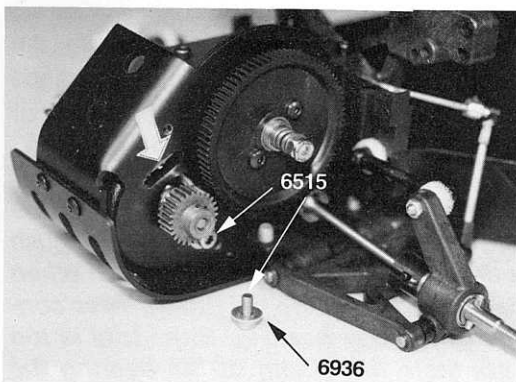

Fig. 118
3) Now you can slide the motor into the motor plate opening so that the motor shaft comes out the right side of the motor plate under the spur gear. 4) Now use the #6515 3mm motor mounting screws and #6936 washers to secure the motor to the motor plate (fig. 118).
5) Next we want to install the #6684 pinion gear onto the shaft of the motor so that the set screw will be away from the motor. This means the tooth side of the gear will be going onto the shaft first (fig. 118). Line the pinion gear teeth up with the spur gear teeth and then 6) secure the pinion gear to the motor shaft with the #6951 set screw. Make sure the set screw seats onto the flat portion of the motor output shaft.